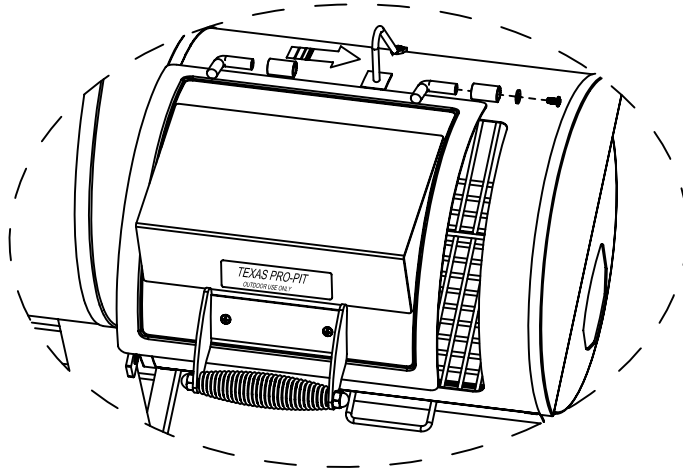

fig. 19b
- Fit firebox lid (38) & firebox lid handle (34) assembly onto the firebox unit and secure with the hinge locking screw fig. 19b (supplied).